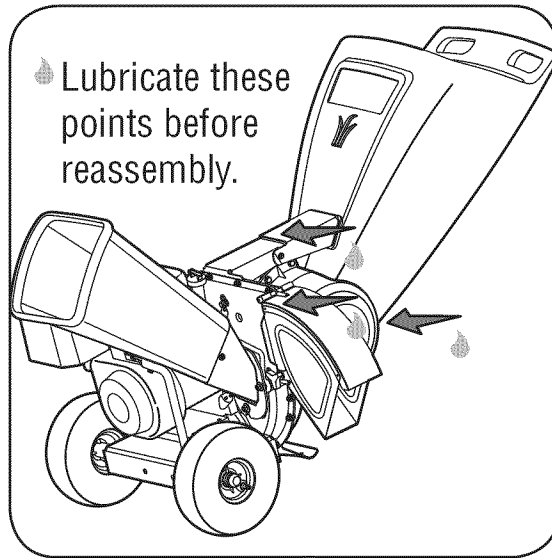

Figure 11
1. Lubricate the release rod and spring with light oil once a season. See Figure 11.
2. Lubricate the pivot points on the hopper assembly with light oil once a season. See Figure 11.
3. Lubricate the pivot points on the discharge chute with light oil once a season. See Figure 11.